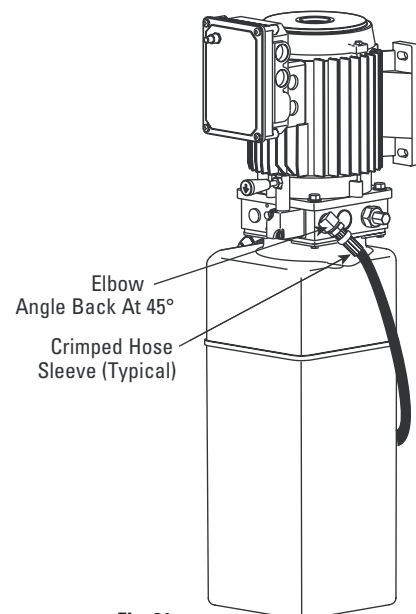

Fig. 21
- C. Install and hand tighten elbow to pump until O-ring is seated and elbow is oriented downward at approximately 45°, Fig. 21. Continue to tighten the locknut to 10-15 ft-lbs., or until the nut and washer bottom out against the pump manifold. NOTE: You may still be able to rotate the elbow. This is acceptable unless there is seepage at the o-ring. If so, slightly tighten the locknut.